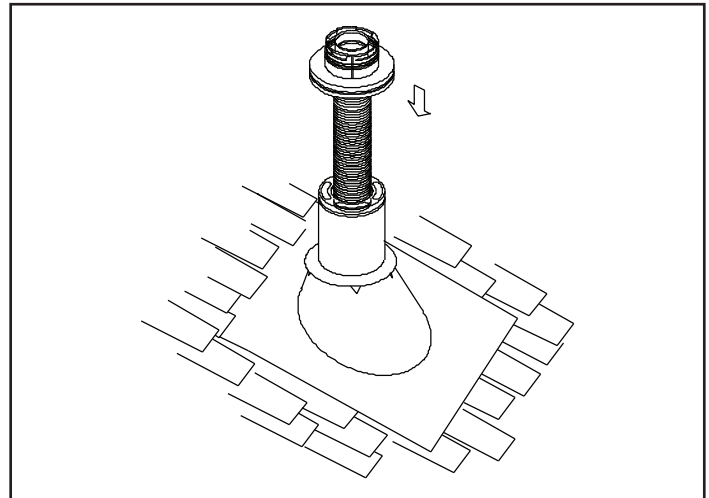
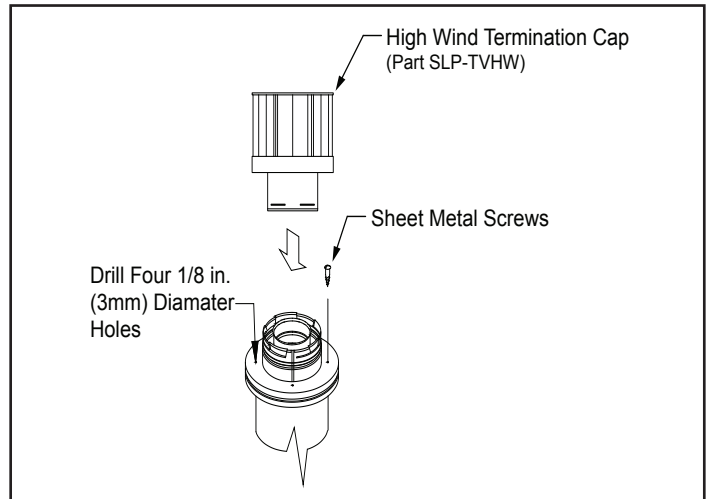

Figure 4.11
Figure 4.12
4. Pass the flex pipe down through the center of the chimney system, and center the top adaptor on the top of the chimney pipe. Drill four 1/8 in. (3mm) diameter holes through the top adaptor, and into the chimney top. Ensure that you are drilling into the metal on the chimney. Twist lock the high wind termination cap onto the top adaptor. See Figure 4.11 and Figure 4.12.